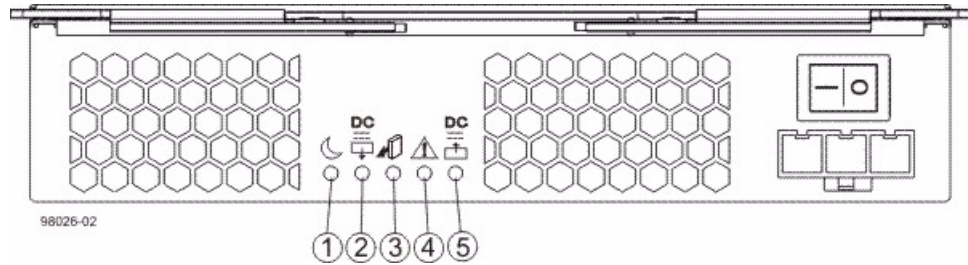

Figure 5.4 LEDs on a DC Power-Fan Canister
6. Check the Power-Fan Service Action Required LED to locate the failed DC power-fan canister (see *Figure 5.4*).
18. Check the Power-Fan Output DC Power LED, the Power-Fan Input DC Power LED, and the Power-Fan Service Action Required LED on the new power-fan canister (see *Figure 5.4*).